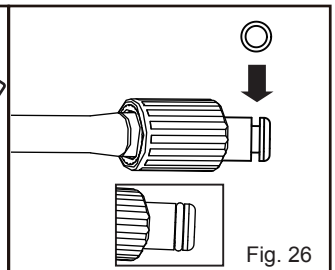

Fig. 26
- Replace the O-ring if there is obvious damage to the O-ring, water leakage on the high-pressure hose connections, or spray gun connections. Confirm that the O-ring has been installed correctly (Fig. 26).